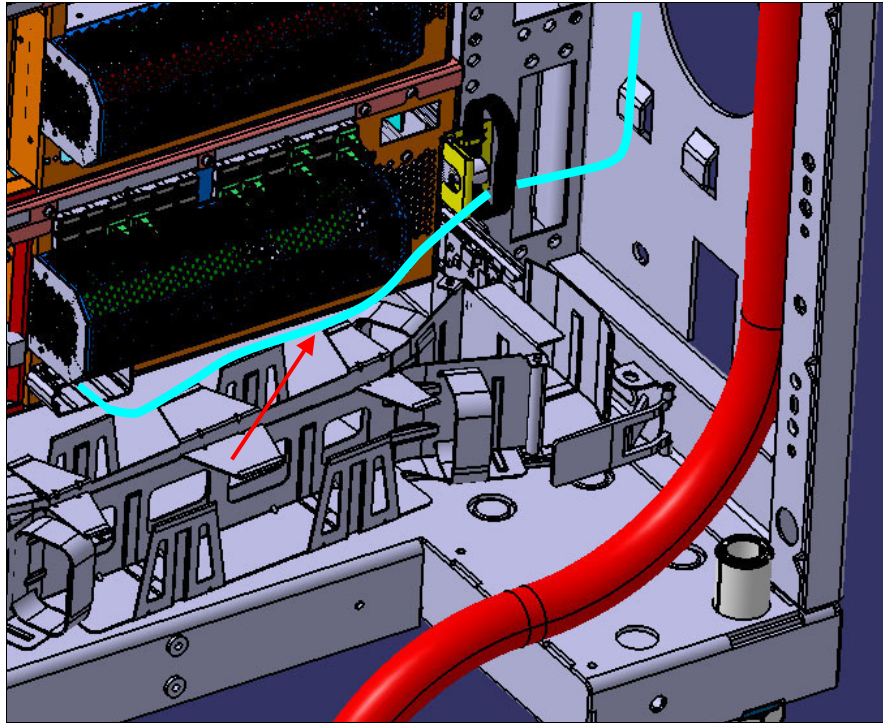

Figure 3-6 51 V dc cable management
3. Install the 51 V dc cables. See Figure 3-6.